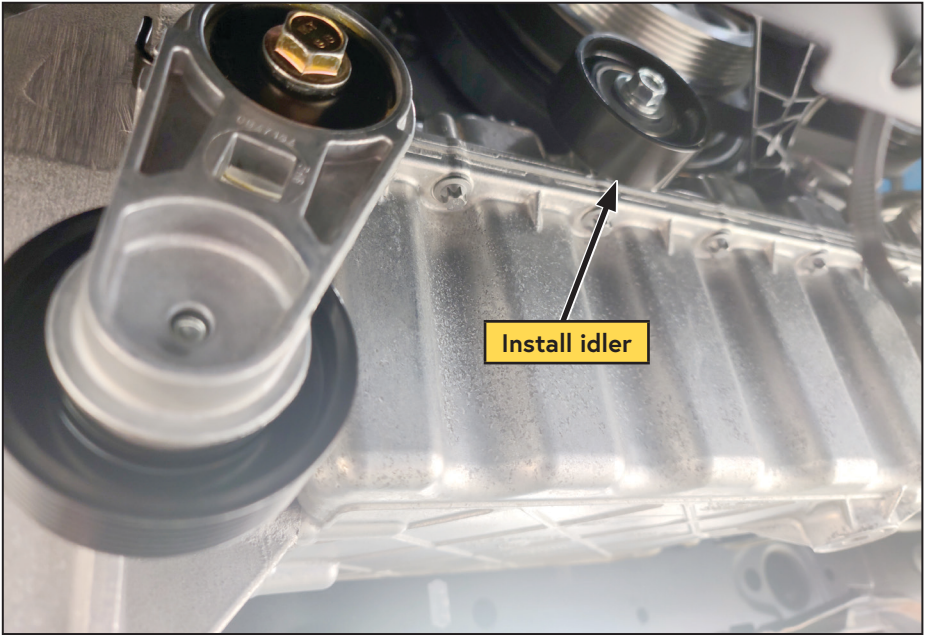

Figure 15 — Install oil pan idler
- Using the supplied bolt, washer, and spacer, install the remaining idler into the tapped hole in the oil pan (Figure 15).